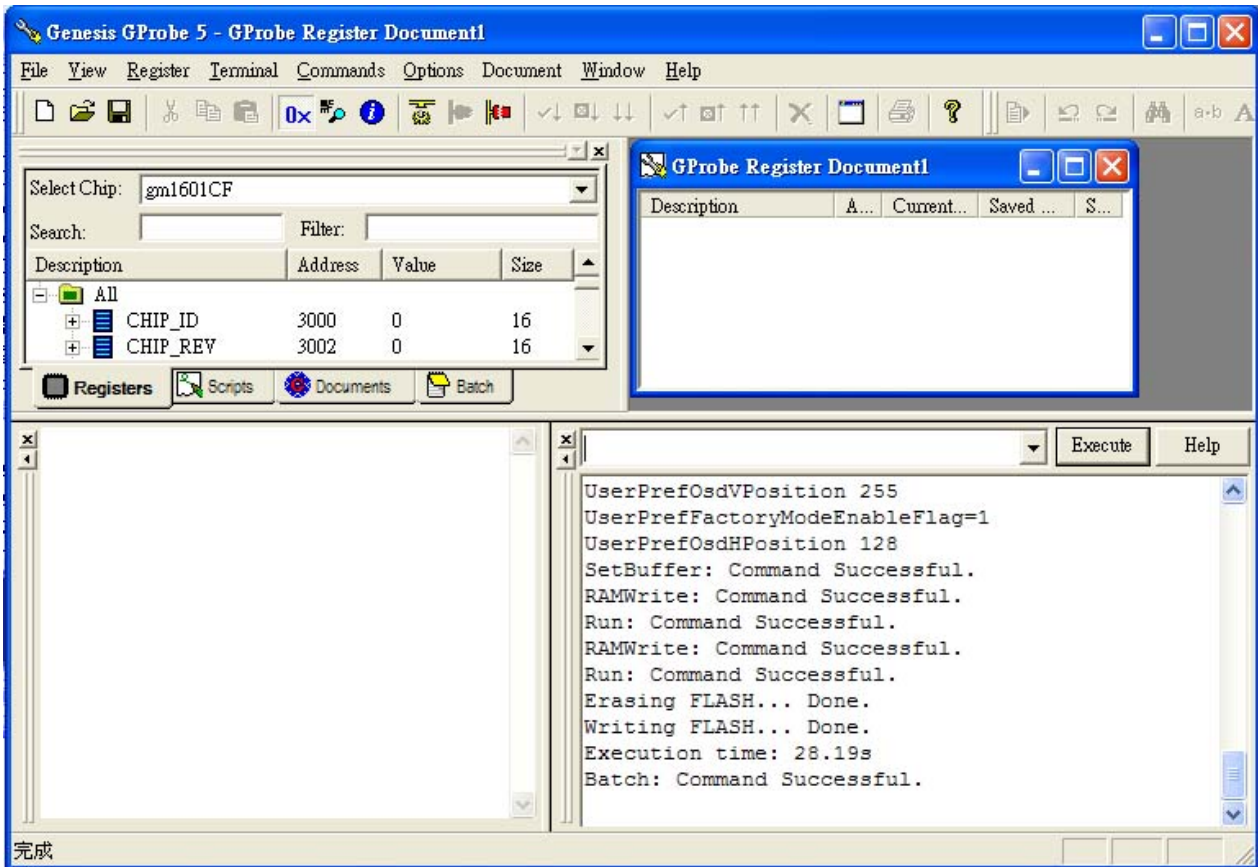

Fig. 1.4
1.7 After click the “Execute” button, you will see the terminal information in Fig. 1.4 . When the message “Batch: command successful” is shown, the flash progress is completed.